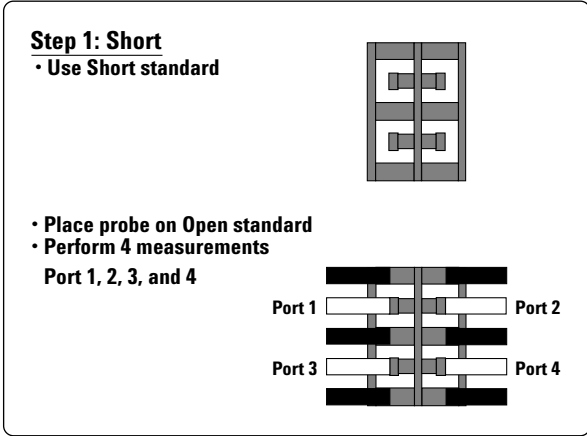

Figure 12. Short calibration
3. The short calibration is performed for each test port by using the short on the ISS. Refer to Figure 12.